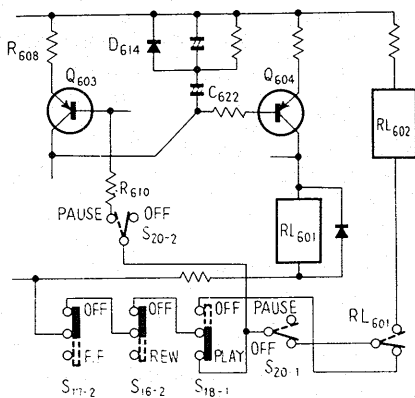

Fig. 12
• Pause Circuit (Fig.12)
2. If, under these conditions, the PAUSE switch is depressed, switches (S_{20-1} , S_{20-2}) go over to the positions indicated by the broken lines, and the base of Q_{603} is directly biased via $R_{610} \sim S_{20-2} \sim S_{18-1} \sim S_{16-2} \sim S_{17-2}$. Q_{603} comes ON, and C_{622} is very rapidly discharged via $C_{622} \sim D_{614} \sim R_{608} \sim Q_{603}$ as shown in Fig. 12.